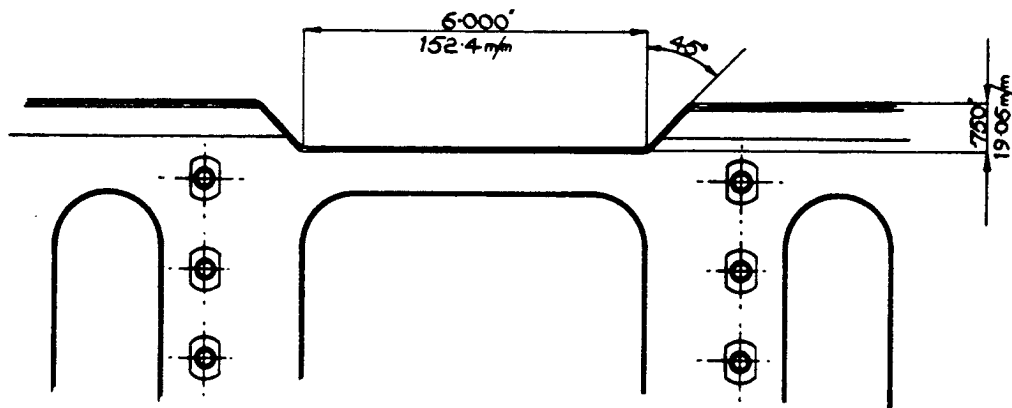

FIG. 6. MODIFICATION TO RADIO MOUNTING TRAY.
2. Cut away the rear of the mounting tray as shown in Fig. 6, and weld on a stiffening rib similar to that already on the rear of the tray.